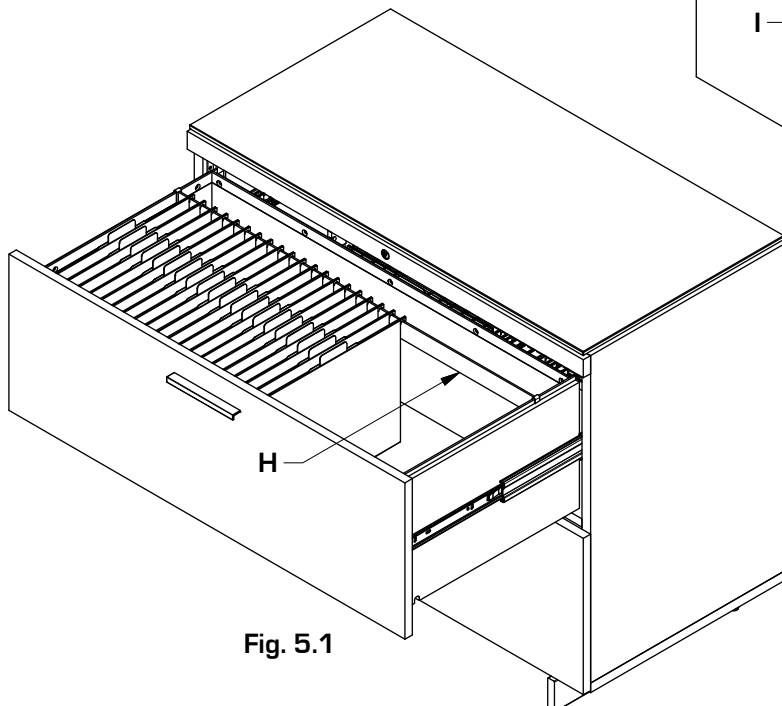

Fig. 5.1
Legal File Folders can be installed in the lateral drawers front to back without installing File Folder Brackets. If users wish to install Letter or A4 File Folders Front to Back, install **Large File Folder Bracket (H)** by lowering bracket onto drawer sides (see Fig. 5.1).